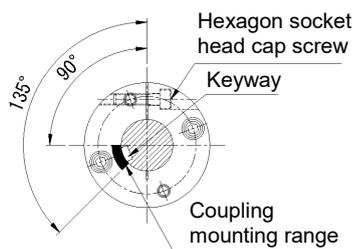

Fig. 5-18
- For the motor shaft provided with a keyway, remove the key and align the center phase of the keyway of the motor shaft with the position indicated in Fig. 5-18 (with reference to the bolt) within the mounting range of the coupling. Otherwise, proper tightening force cannot be obtained.
- Confirm that the tip of the motor shaft is in contact with the partition plate, and then tighten the hexagon socket head cap screws with the specified tightening torque (refer to Fig. 5-18).